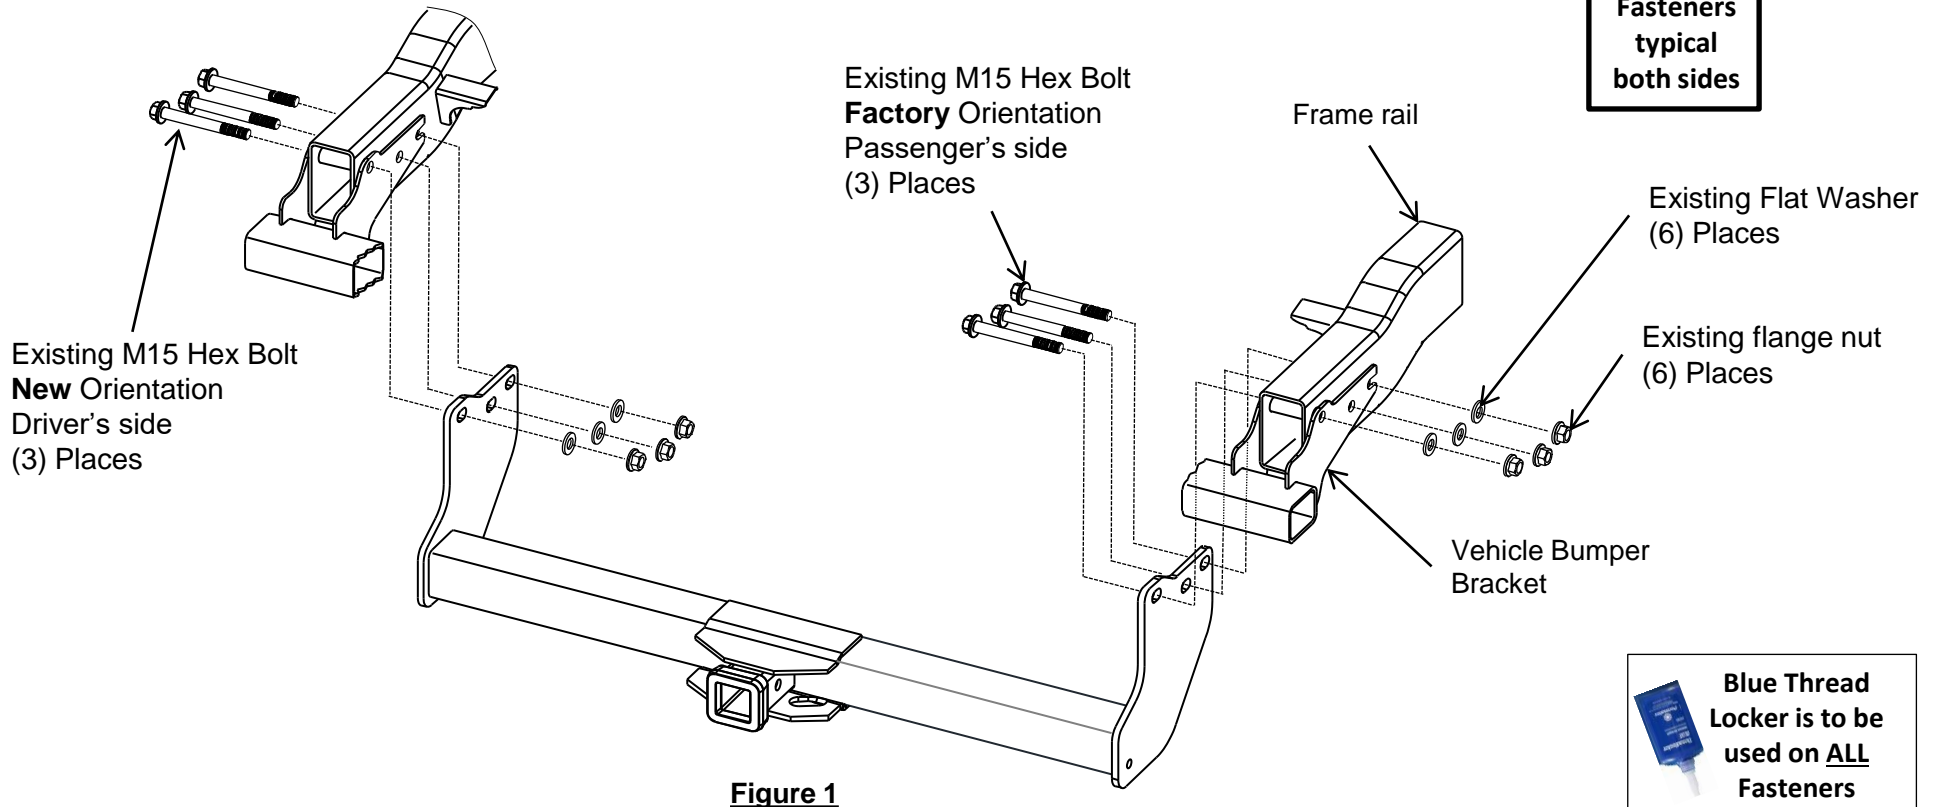

Figure 1
- 1. Remove Factory Bolts** – Using a 22mm socket and 22 mm wrench, remove (6) M15 hex bolts, flat washers, and hex nuts holding vehicle bumper (3 per side), near rear of vehicle. See Figure 1.
- 2. Install hitch** – Raise hitch into position between the inside of frame rails and bumper brackets. Loosely install (6) factory M15 bolts as shown in Figure 1. Apply blue thread locker to threads of all bolts. Install factory flat washers and hex nuts onto factory bolts, (6) places.
- 1. Remove Factory Bolts** – Using a 22mm socket and 22mm wrench, remove (6) M15 hex bolts, flat washers, and hex nuts holding vehicle bumper (3 per side), near rear of vehicle. See Figure 1.
- 2b. Install hitch –** Loosely install (6) factory M15 bolts as shown in Figure 1. Apply blue thread locker to threads of all bolts. Install factory flat washers and hex nuts onto factory bolts, (6) places.